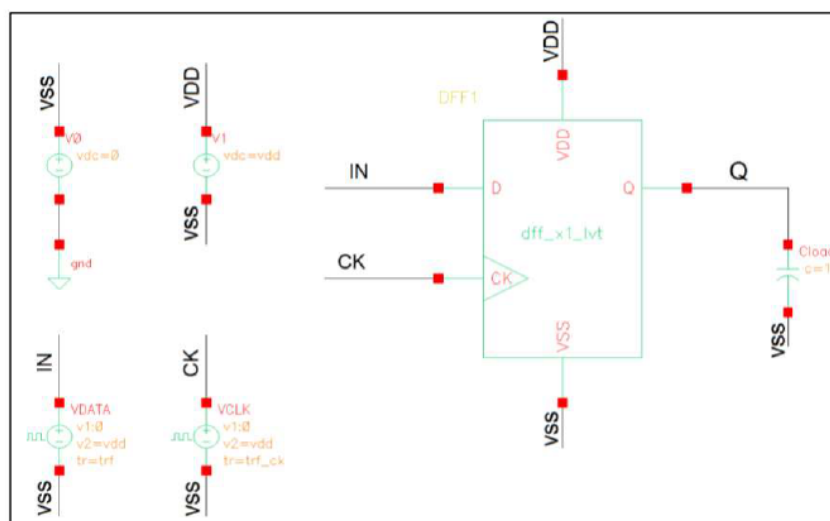

Figure 4. Testbench tran analysis of DFF
- Assemble the testbench as shown in **Figure 4** in Virtuoso, and set the *vpulse* source parameters (Voltage 1, Voltage 2, period, delay, rise time, fall time, and pulse width) for the **DATA** and **CLOCK** signals as shown in **Figure 5**.